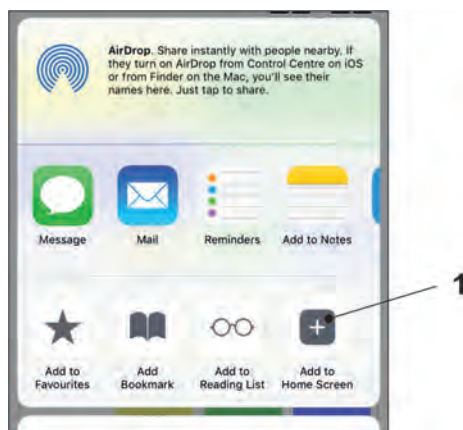

Fig. 30-17 To Home screen
9. Select "To Home screen" (Fig. 30-17 Pos. 1).